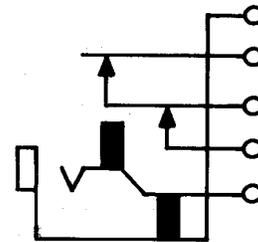

Fig. 8—226A or C Jack
2.08 226A and C: These single-mounted jacks (Fig. 8) are used with 1D, 1E, 153, 209, 241, 305, 327, 328, 347, 373, and 464 plugs. These jacks are heavily insulated. These jacks are mounted with the springs in a vertical plane. The terminal of the tip spring is arranged to accommodate two No. 16B and S gauge wires.